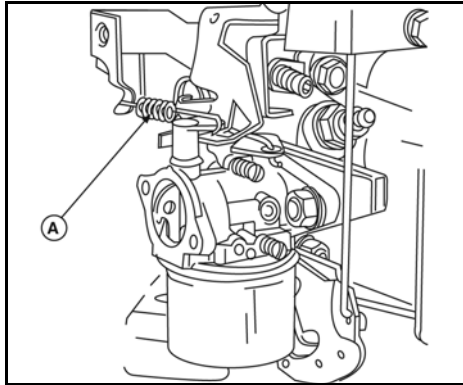
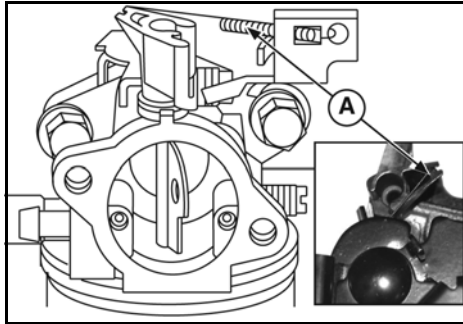

Figure 13
Figure 14
3. Disconnect the Choke-a-Matic® spring, if equipped, from choke lever (A, Figure 13, Figure 14).